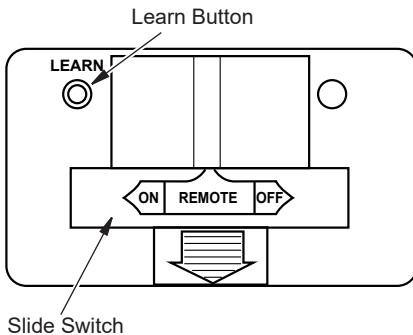

Figure 19 - Receiver
1. Place the slide switch on the receiver in the remote position (see Figure 19).